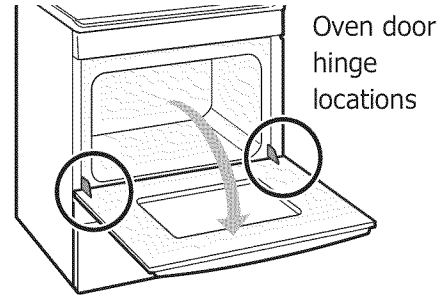

Figure 14: Door hinge location
1. Open oven door completely, horizontal with floor (See Figure 14).
3. Fully open the oven door, horizontal with floor (See Figure 14).